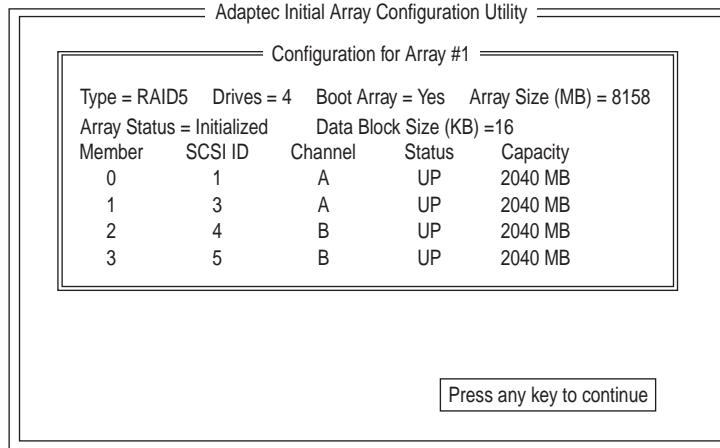

Figure 6-20. Sample Array Configuration Screen
- 3 View the information that appears on the screen. A sample screen is shown in Figure 6-20.